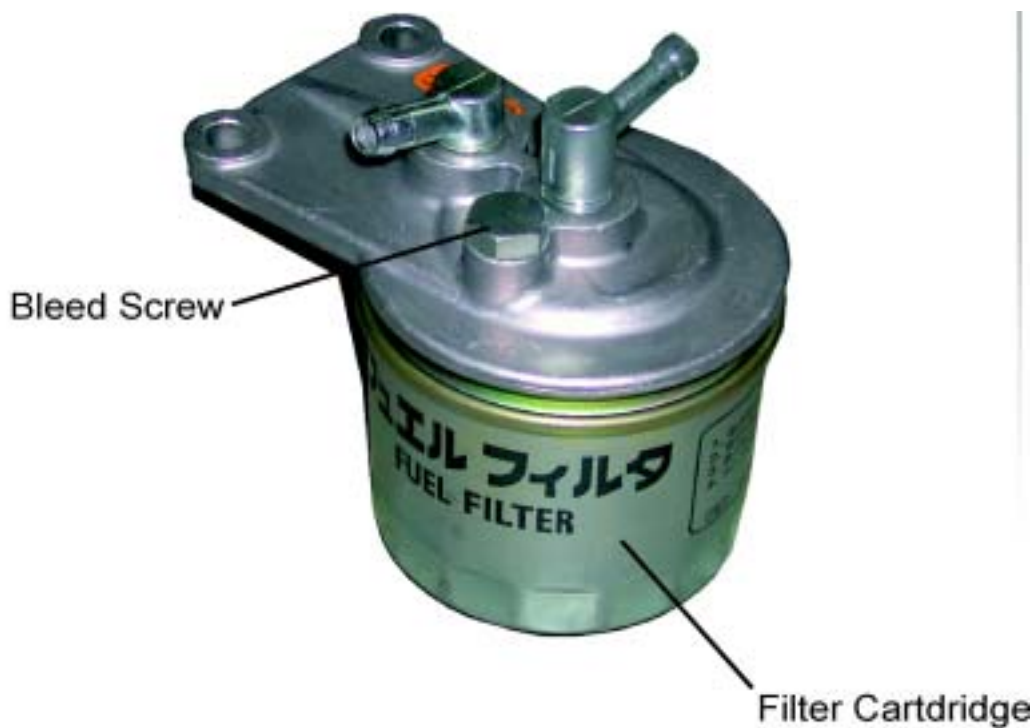

FIG. 2-1
**See Figure 2-1. Replace the primary fuel filter and prefilter cartridge every 200 hours.** After replacing any of the two filter cartridges, loosen the air bleed screw on the main filter and turn the key switch on the control panel to #1 position and wait until fuel begins to flow from the valve and is free of air bubbles. Turn the key to #0 position. Tighten the bleed screw.